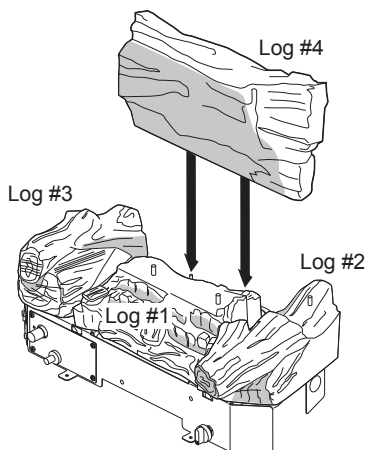

Figure 24 - Installing Log #4 (Model VRL30NR Shown)
- Place log #4 onto two alignment screws to rear of base (see Figure 24).